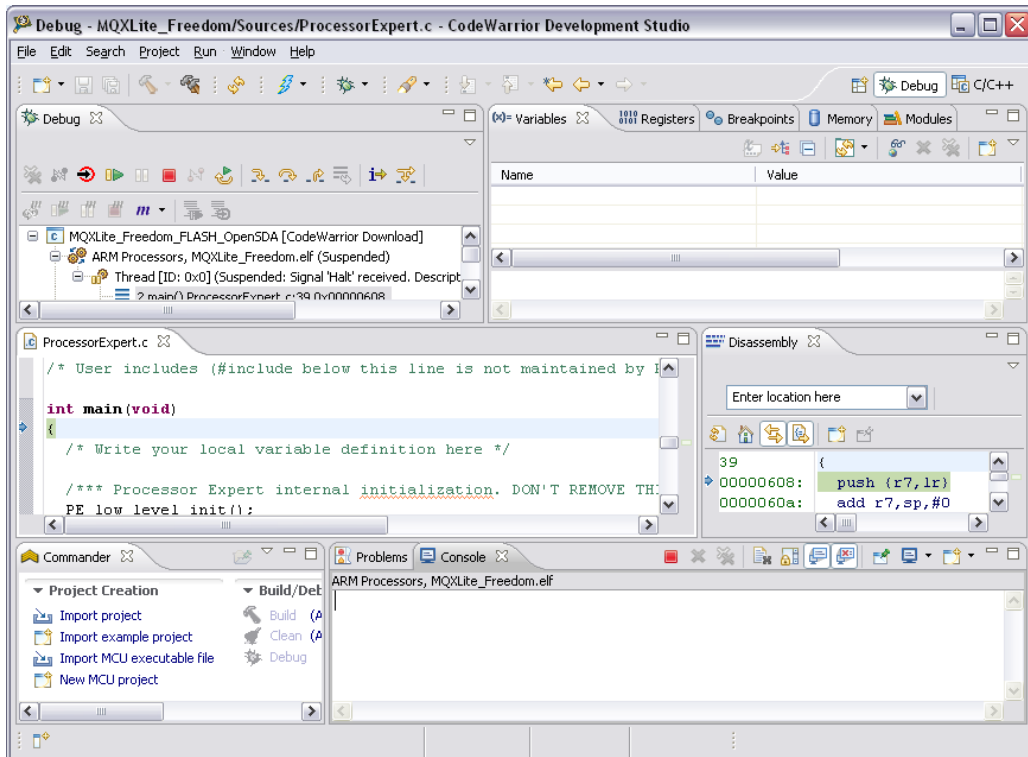

Figure 45. CodeWarrior debugging perspective view
3. At this point the CodeWarrior perspective view changes and after the source code is downloaded to the board we are able to start the debugging. Figure 45 illustrates a debugging session.